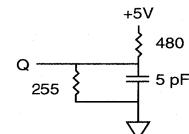

Fig. 2 OUTPUT LOAD EQUIVALENT
6.  $t_{HZCE}$ ,  $t_{HZOE}$  and  $t_{HZWE}$  are specified with CL = 5pF as in Fig. 2. Transition is measured  $\pm 500\text{mV}$  from steady state voltage.